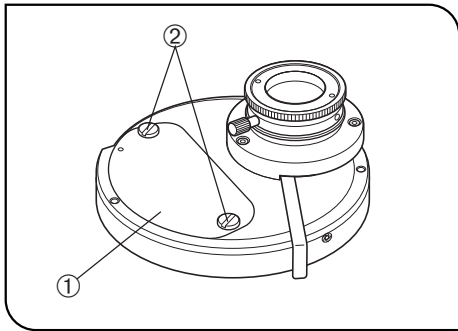

Fig. 35
### 4 Attaching the DIC Prisms (for Condenser) (Figs. 35 to 38)
#### With the WI-UCD Condenser (Figs. 35 - 37)
4. After attaching all of the required DIC prisms, attach the cover ① and tighten the retaining screws ②. (Fig. 35)